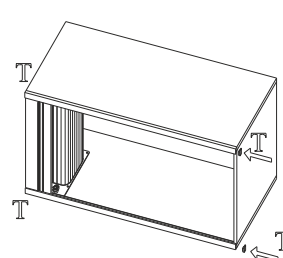

Fig. 9
6. Attach the end cap at the bottom of the left and right track as shown in Fig.9.